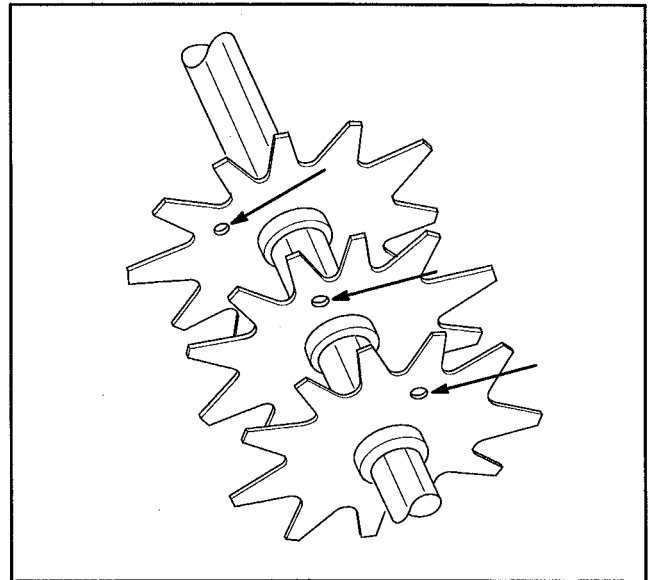

Figure 14
## INSTALLING DETHATCHER BLADES (Fig. 14)
4. Install the next blade counter-clockwise so the index reference hole is not aligned with the first blade hole by one hex of the shaft (Fig. 14). Continue to install spacers and blades in this manner until the full complement of blades ave been installed. When properly assembled, the blades will be staggered in such a manner to give a helix appearance.